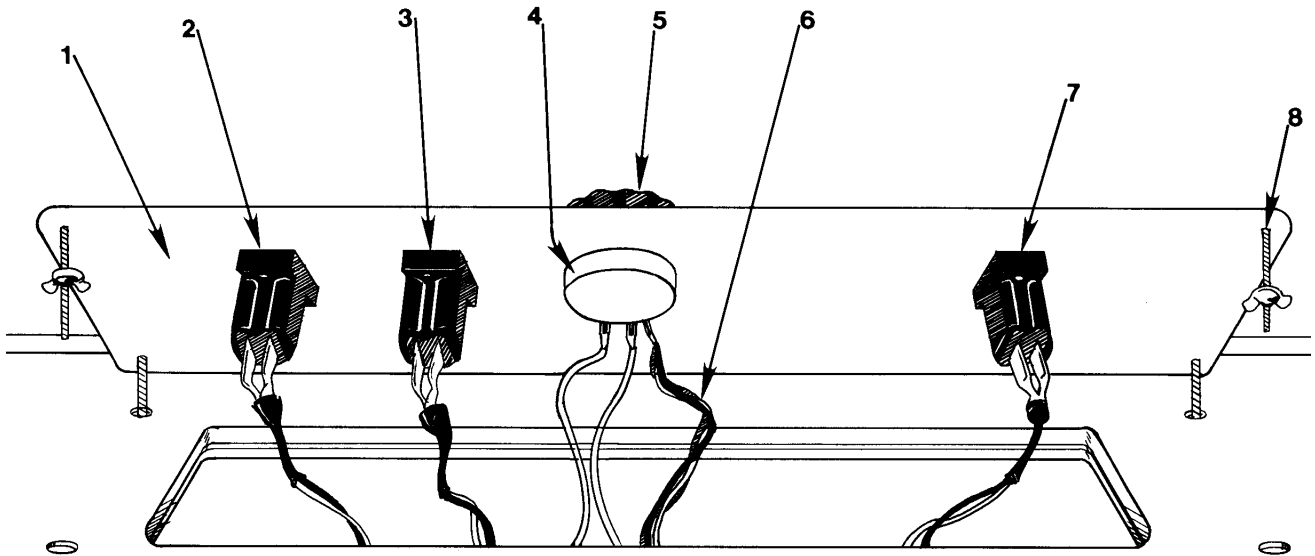

Figure 4: Control Panel
RIPCORD has three switch selectable options. These are controlled by a seven segment DIP switch located on the main logic board at position 14A (see Figure 4, item 8). This switch is accessible from the front of the game through the coin door.
### A. RIPCORD Control Panel (see Figure 4)